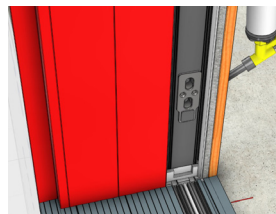

Fig F5
- Ensure that you have a spray foam nozzle that can reach within 1" from the front of the rough opening (Fig. F5).